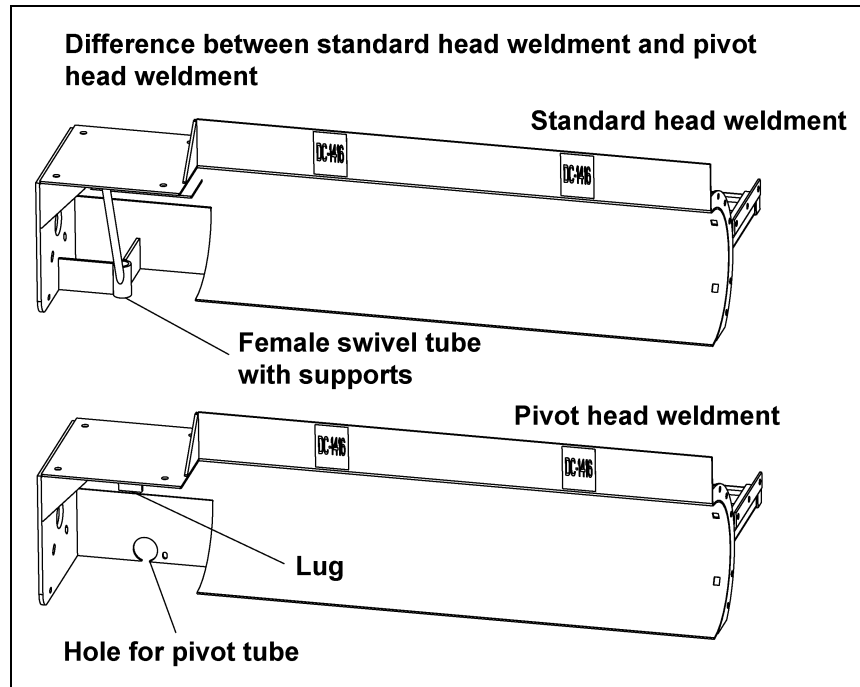

Figure 11B
The following Figure 11B is of a 12" pivot sweep head end weldment and a 12" standard sweep head end weldment. There are very few differences between the two. The standard head weldment has the female pivot tube welded to the drive end of the unit. Two (2) plate braces and one pipe brace support this tube. The pivot head weldment has a lug welded to the underside of the motor mount plate. This lug is for attachment of the sweep pivot rod assembly. There is a large hole in the rear plate for the center support tube assembly to pass through. Next to the large hole is a slot that the center support mounts to.